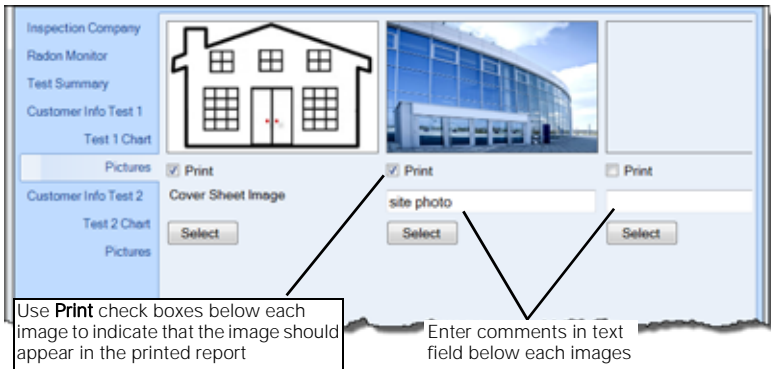

Figure 19. Pictures View
- 2 In the panel on the right, click **Select** to browse to the directory in which the images are stored and select the image (Figure 19).